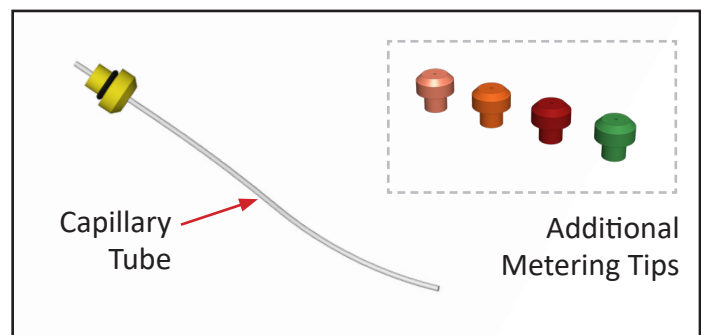

Fig. 5.3: Metering Tips and Capillary Tube
3. If necessary, adjust the dilution ratio using the included metering tips and test [Figure 5.3].
- The smallest metering tip is a yellow tip with a small tube attached [Figure 5.3]. This tube can be trimmed to alter the dilution ratio.